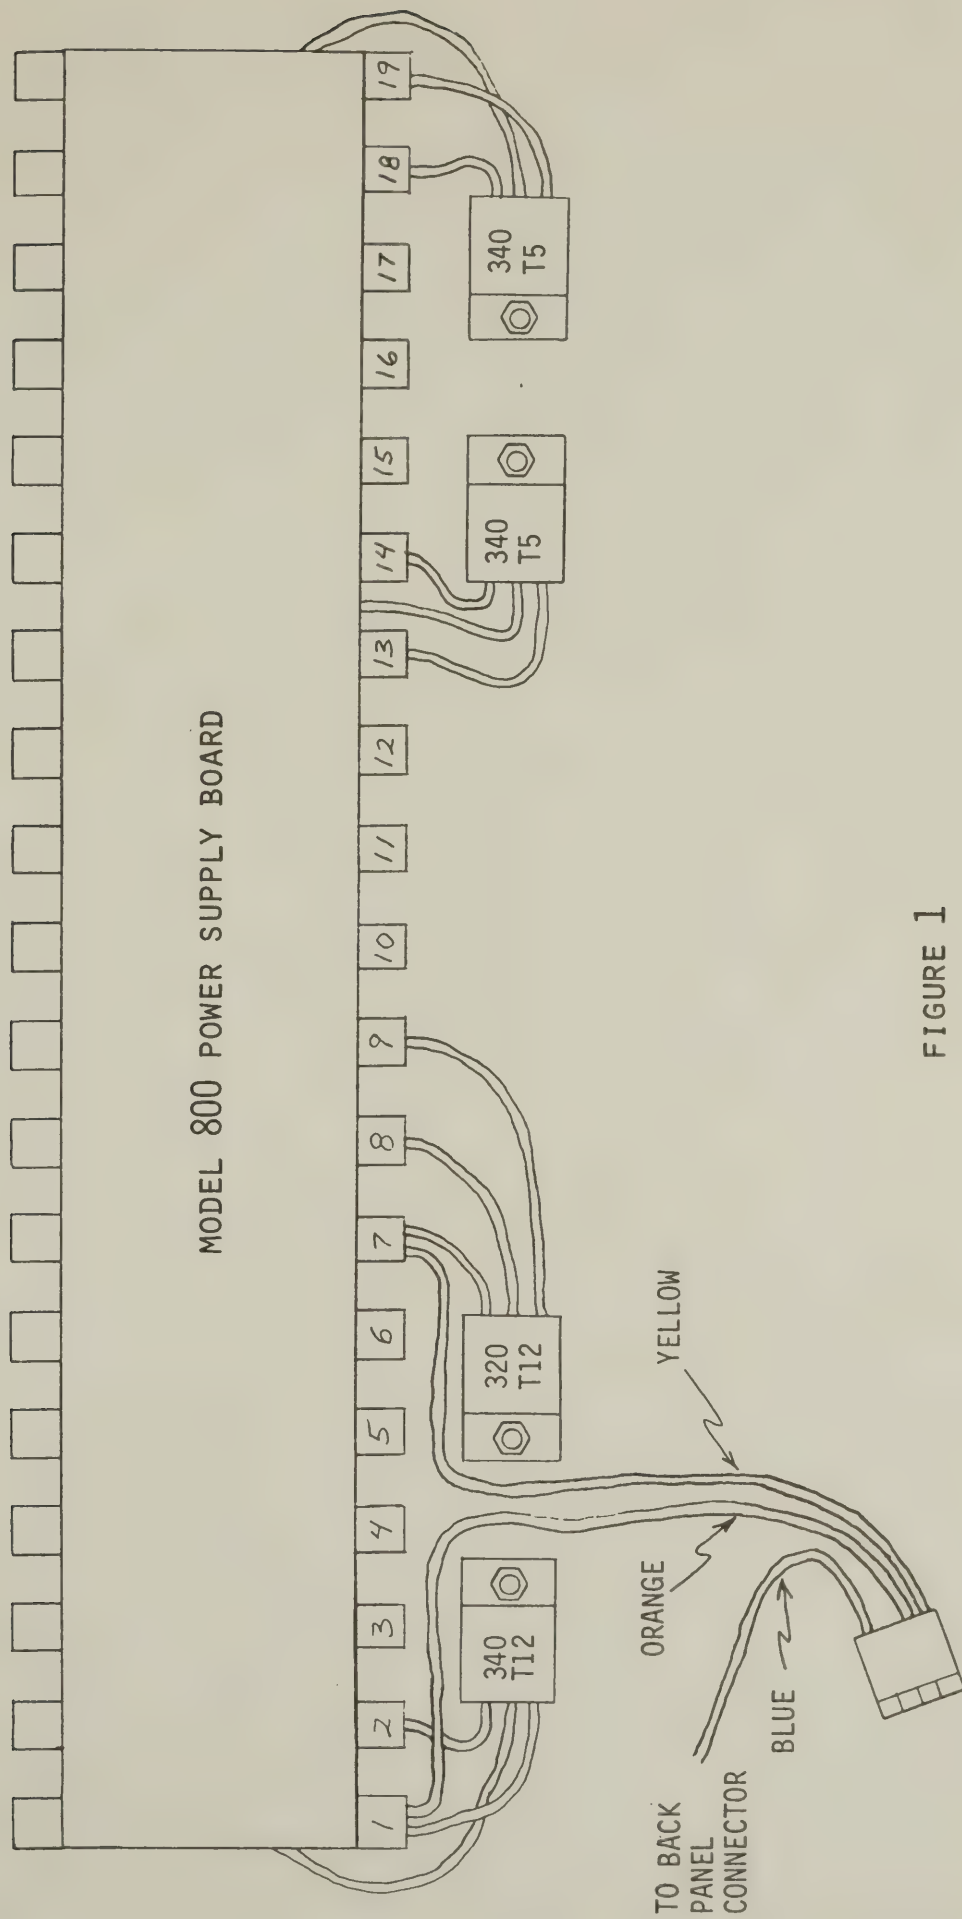

FIGURE 1
- 11.( ) Locate the 3-conductor cable assembly included in the kit. Secure the leads to the lugs of the power supply board as shown in Figure 1 and indicated below.
If a printer requiring a Centronics standard interface is to be used a suitable interface cable must be fabricated. Refer to FIGURE 1 and to the manual provided with the printer for the information required to properly construct the cable. Once the cable is completed and installed the only task remaining is to select the PARALLEL printer interface mode in the MODEL 800C. This procedure will be described later.